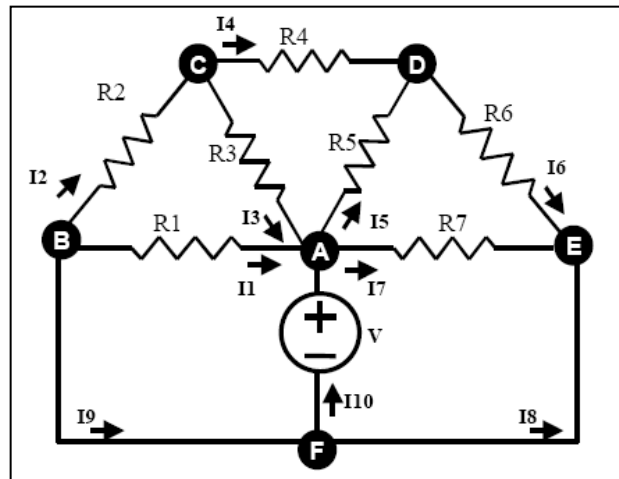

Figure 3-1: Simple Circuit to Apply Nodal Analysis
The node-voltage method permits the description of a circuit in terms of  $n_e - 1$  equations. Figure 3-1 shows a circuit suitable for the analysis with the node-voltage method. In this circuit three essential nodes can be identified ( $n_e = 3$ ), therefore two ( $n_e - 1$ ) node-voltage equations describe the circuit. To select the set of  $n_e - 1$  nodes to perform the analysis, one of the essential nodes is selected as a reference node. If there is a ground node, it is usually most convenient to select it as the reference node, otherwise the node with the most branches is chosen. The equations are then written by applying KCL to each non reference node expressing the branch currents in terms of the node voltages. Once the equation system is solved and the node voltages are known, all the branch currents can be calculated.
- a. Assemble the circuit in Figure 3-1 with the component values shown in Table 3-1.